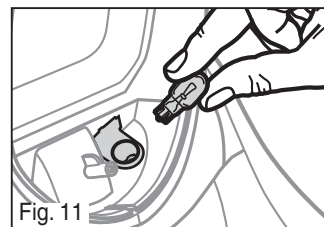

Fig. 11
- 3) Push in new bulb, replace lens cover and replace screw (Fig. 11).